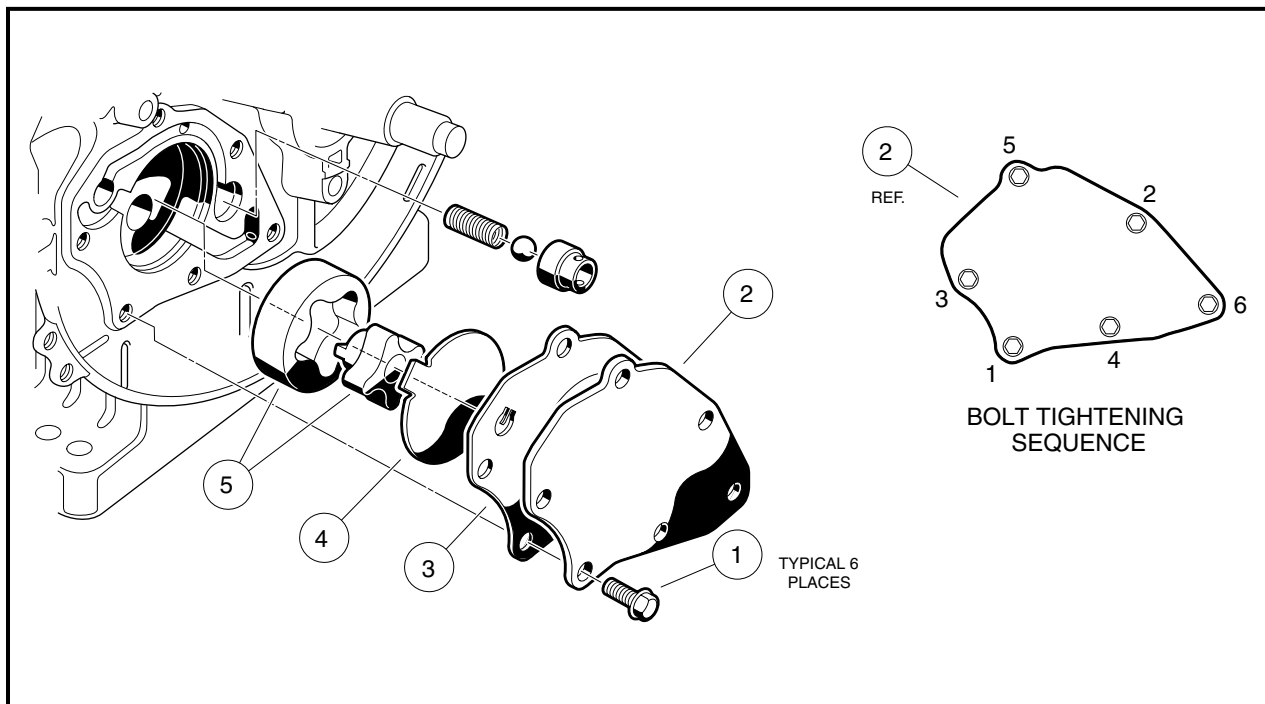

Figure 2-59 Oil Pump
1. Remove the six screws (1) and take off the oil pump cover (2) (Figure 2-59, Page 2-28).
2. Peel off the oil pump cover gasket (3).
3. Remove the pump gear cover plate (4) (Figure 2-59, Page 2-28).
3. Install six bolts (1) and finger tighten. Then tighten to 7 ft-lb (9.5 N·m) in the sequence shown (**Figure 2-59, Page 2-28**). After tightening bolts, check torque of first bolt.